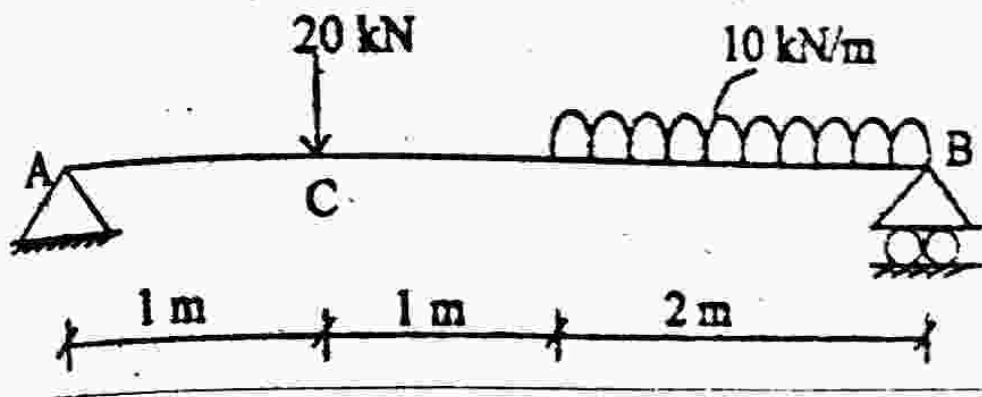

Fig. Q. 9
8. Derive the torsional formula stating suitable assumptions, for a solid circular rod subjected to torsion. (13)
A beam AB of 4 m span is simply supported at the ends and is loaded as shown in Fig. Q. 9. Determine deflection at C, maximum deflection and its location and the slope at end A. Take $E = 200 \times 10^6 \text{ kN/m}^2$ and $I = 20 \times 10^6 \text{ m}^4$ (13)